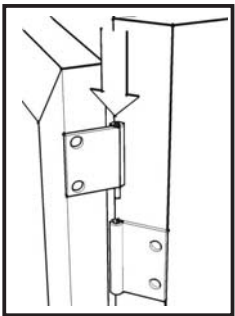

Figure 1
Attach Doors (T) and (U) to unit by sliding the door lift hinges into the side panels lift hinges. (See Figure 1)
(Figure 1)
Attach V1 to V2 and V4 using long wood screws (4X), tighten halfway. (See Figure 1)